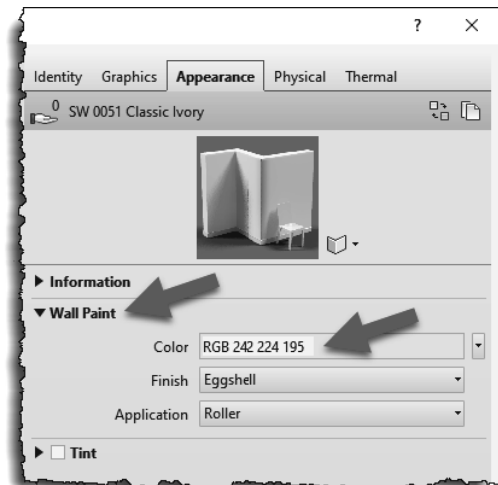

FIGURE 4-3.16 Final appearance settings
Now you can adjust the specific paint information for your *Material* (Figure 4-3.16). Keep in mind that this *Appearance* asset may be applied to other *Materials* in your project. For example, the asset could be applied to a CMU wall or metal railing. Any adjustments made to the asset are instantly applied to all *Materials* which use it.
49. Change the RGB numbers as follows (Figure 4-3.16):